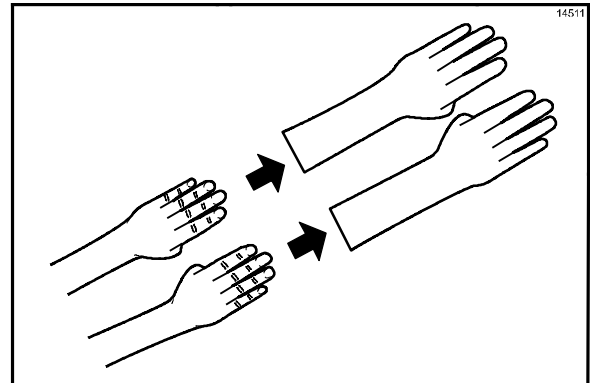

Figure 13
3. Put on heat-resistant gloves. (See Figure 13.)